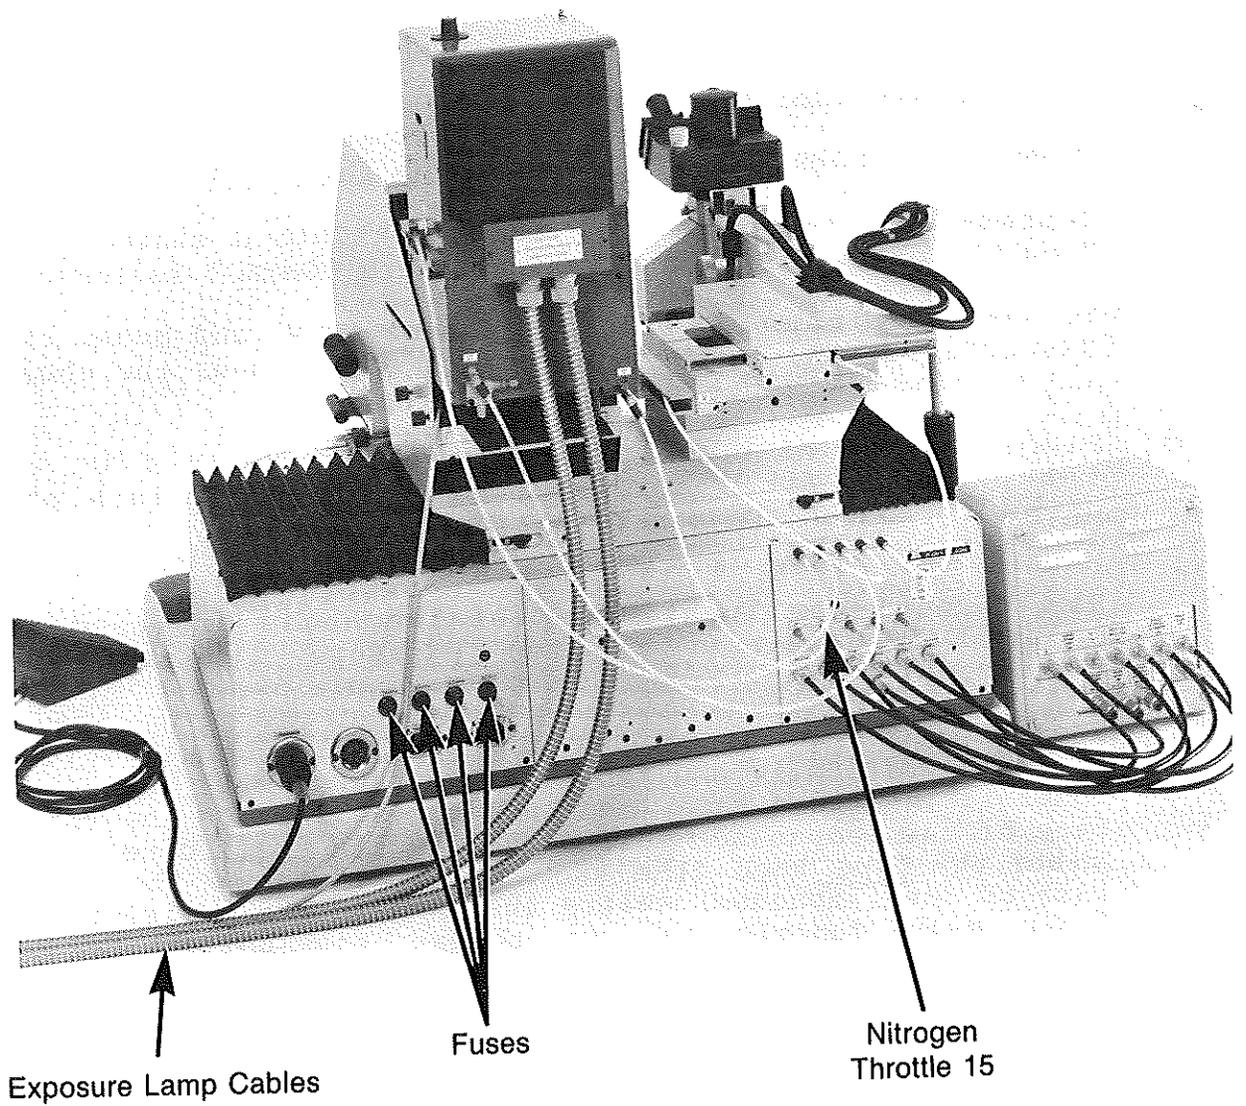

Figure 5-2 Back Side of Machine
12. Adjust the nitrogen flow for cooling of the lamp base using throttle 15 which is located on the rear of the machine (see Figure 5-2). Close the throttle by turning it clockwise, then open counter clockwise about 1/2 to 1 turn for a nitrogen input pressure of approximately 2 bar.